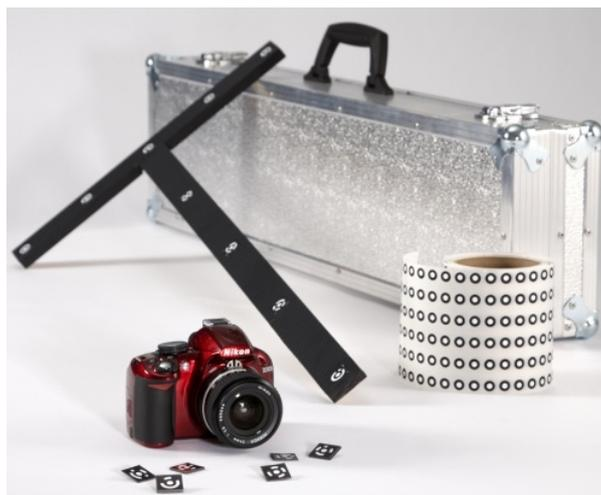

Figure 37: *Scan Reference* kit
2. Place the cross (Figure 37) on the scene, ensuring that it rests firmly, and it is seen from most points of view. Also double check that all targets on the cross are clearly visible.
This synergy of technologies is possible thanks to Artec 3D-scanner and photogrammetry solutions. Several third-party photogrammetry offerings are available on the market. *Scan Reference* photogrammetry is one example. The *Scan Reference* kit includes hardware and software (see *Figure 37*), a digital camera, a reference-scale cross, non-coded sticky *targets* (which Artec Studio uses to match the captured 3D data to the photogrammetric measurements), and reusable magnetic coded targets (required to automatically carry out measurements in the *Scan Reference* software).